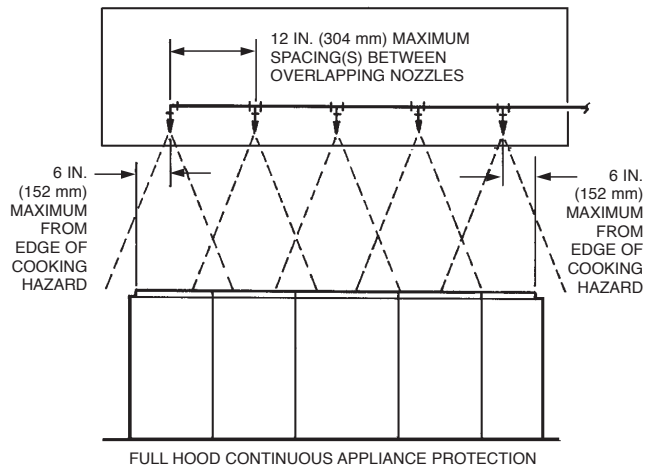
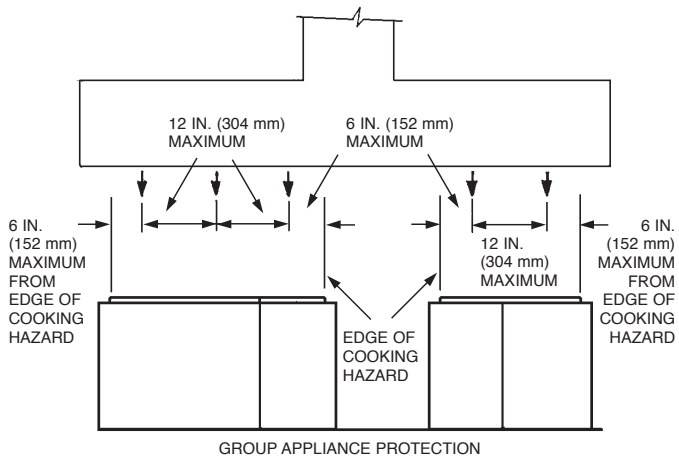

FIGURE 4-108
FIGURE 4-109
See Figure 4-108 (full hood continuous protection) and Figure 4-109 (multiple group protection).
1. For each group of protected appliances under a common hood(s), the overlapping nozzles must be located from right to left so that each end nozzle is located a maximum of 6 in. (152 mm) inside the outside edge of the cooking hazard of each end appliance, and the inside overlapping nozzles must be located between the two end nozzles at a maximum spacing of 12 in. (304 mm). See Figures 4-108 and 4-109.